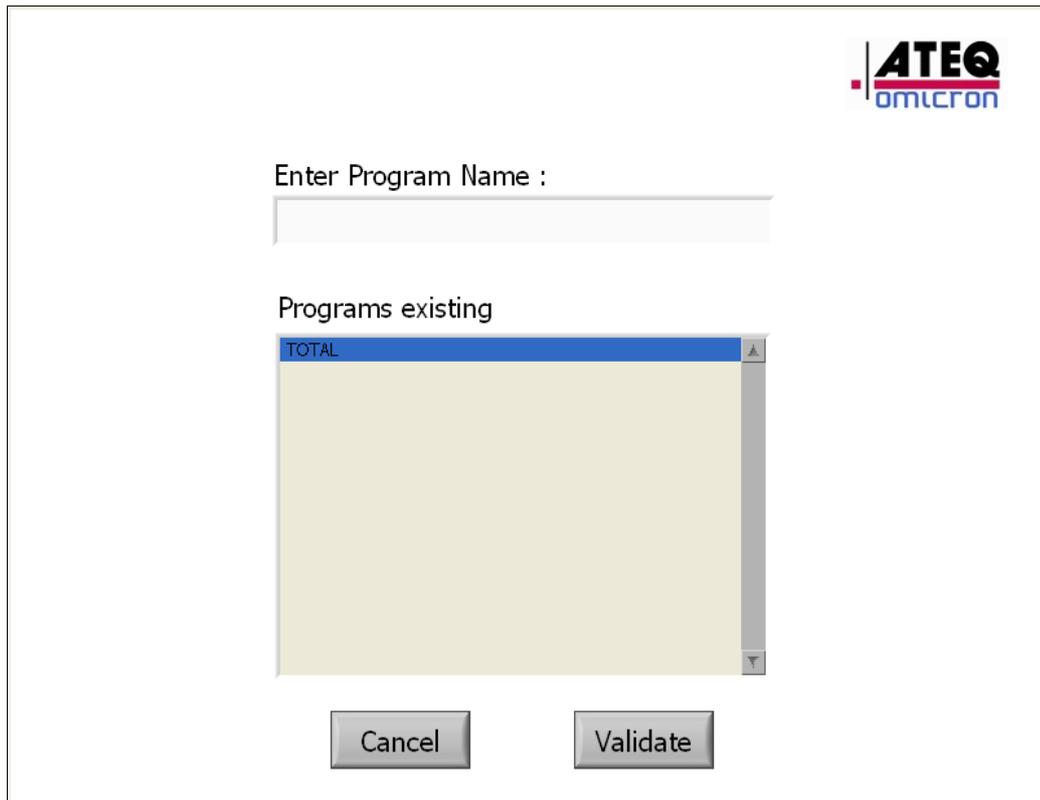

Figure 17
- Click on "New Program". This gives access to the screen shown on Figure 17